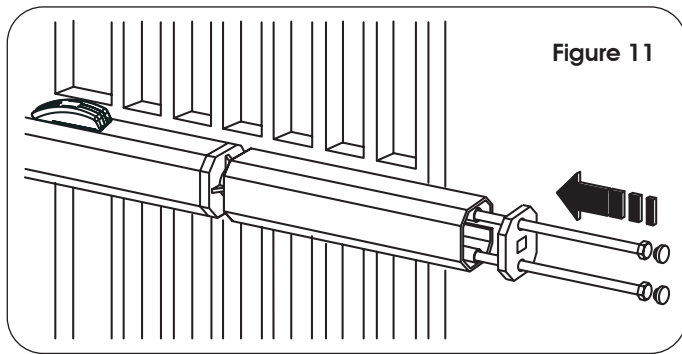
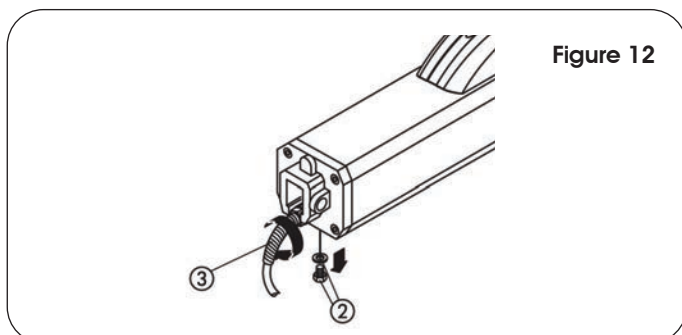

Figure 11
Figure 12
- 13.) Prepare the protective housing and fit it on the operator as shown in Fig. 11. Fit the electric cable strain relief (Fig. 12, Ref. 3).
- Remove the vent screw (Fig. 12, Ref. 2).